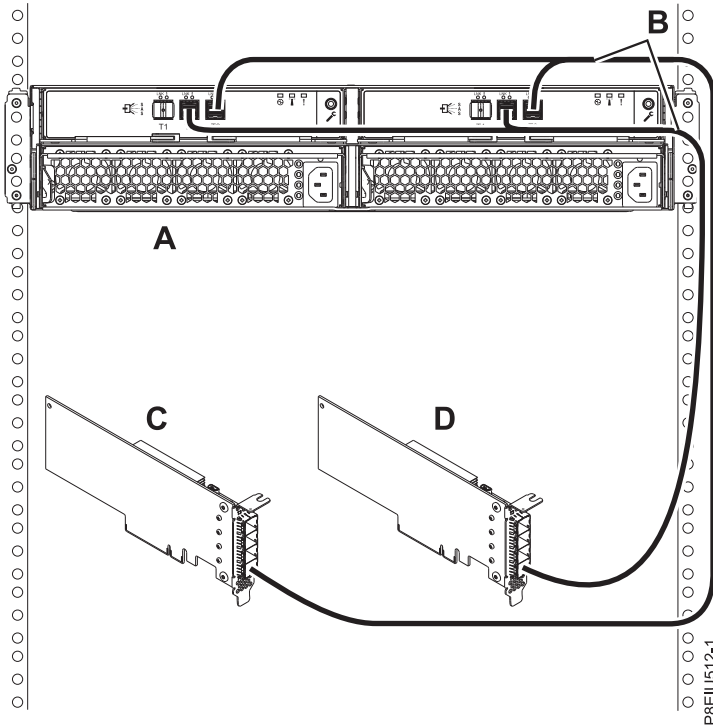

Figure 18. Mode 2 connection of one ESSL or ESLS storage enclosure by using YO12 cables to two independent FC EJ0J or FC EJ0M SAS adapters
18. Complete a mode 2 connection of one enclosure (A) by using YO12 cables (B) to two independent FC EJ0J or FC EJ0M SAS adapters, as shown in Figure 18 on page 19, and then continue with "Connecting cables, power cords, and installing covers" on page 22.